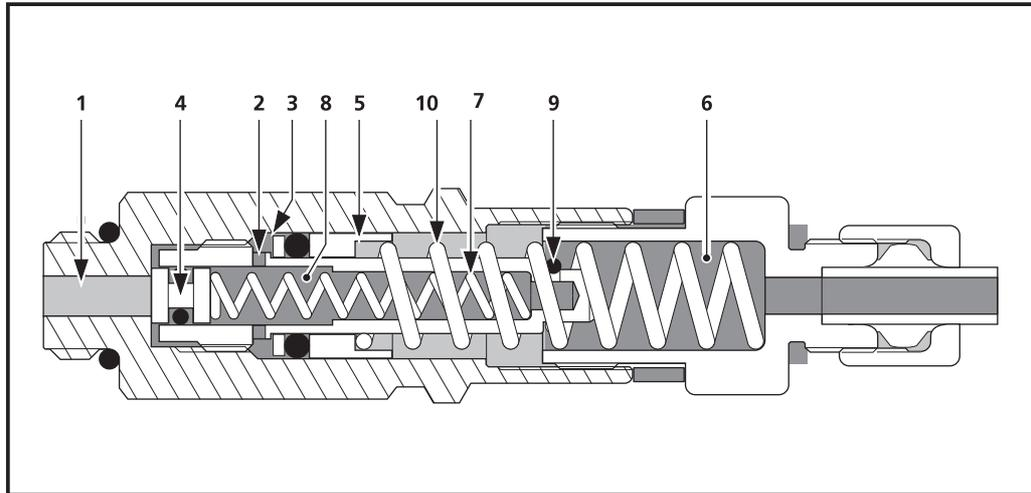

Figure 8.5 Metering unit in phase B
When the pump stops and as the grease pressure drops, spring (7) (Figure 8.5) will push plunger (4) back to the left, closing off channel (1). O-ring (9) prevents grease from being sucked back from chamber (6). Plunger (5) is pushed back by spring (10) and presses the grease in chamber (3), via channel (2), to chamber (8).